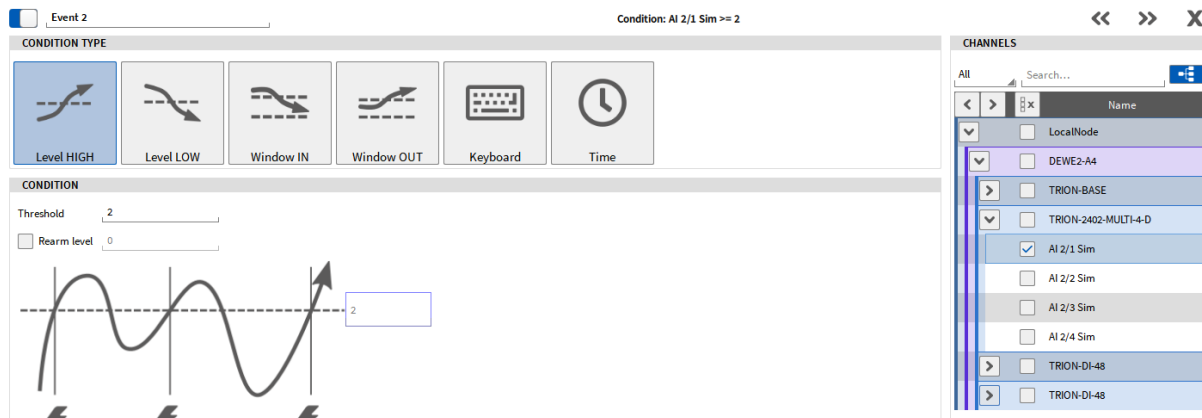

Fig. 9.29: Level High Condition Type; Threshold: 2
- Add another event. Select *Level High* as *Condition Type* and set the *Threshold* to 2. Select the analog input channel to be triggered on in the Channel List on the right-hand side (see Fig. 9.29):